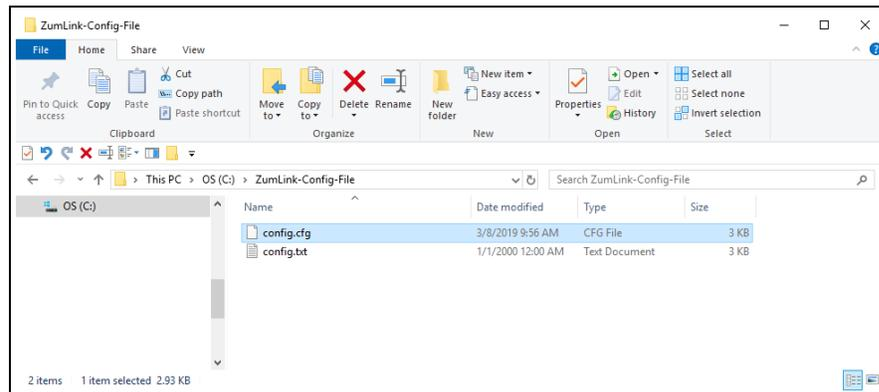

Figure 51: Select the Changed .cfg File
20. Select the changed **.cfg** or **.cfg.txt** file. **Figure 51**